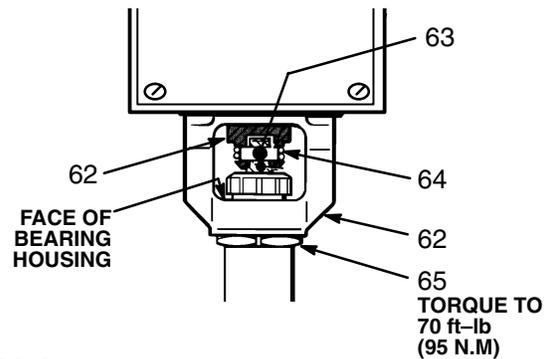

Fig 34-2
- Screw the displacement pump 3/4 of the way into the bearing housing (62). Hold the pin (63) up to the pin hole in the connecting rod (60). Screw in the pump until the pin slides easily into the hole. Back off the pump until the top threads of the pump cylinder are flush with the face of the bearing housing and the outlet adapter (31) is facing back. Push the retaining spring (64) into the groove all the way around the connecting rod. Tighten the locknut (65) very tight – about 70 ft-lb (95 N.m) – with a 2-1/4 in. open end wrench and a light hammer. See Fig 34-2.
Be sure the retaining spring (364) is firmly in the groove all the way around, to prevent the pin (63) from working loose due to vibration. See Fig 34-2.